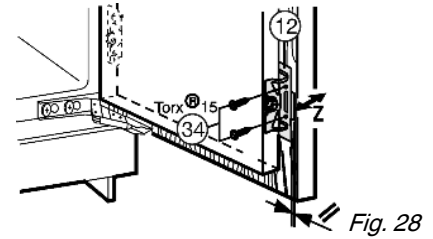

Fig. 28
- Fit a 2nd pair of mounting brackets Fig. 28 (12).
- ▶ Screw the appliance door to the unit door with screws *Fig. 28 (34)* through the mounting brackets *Fig. 28 (12)*.